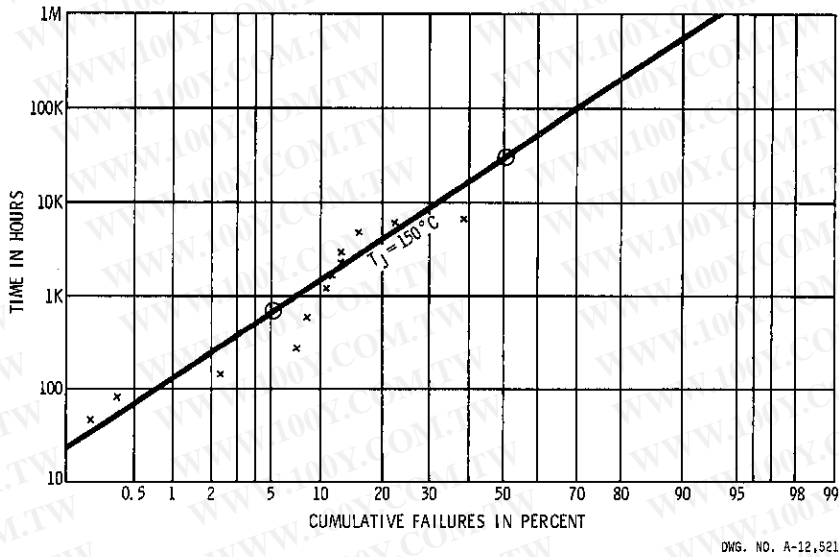
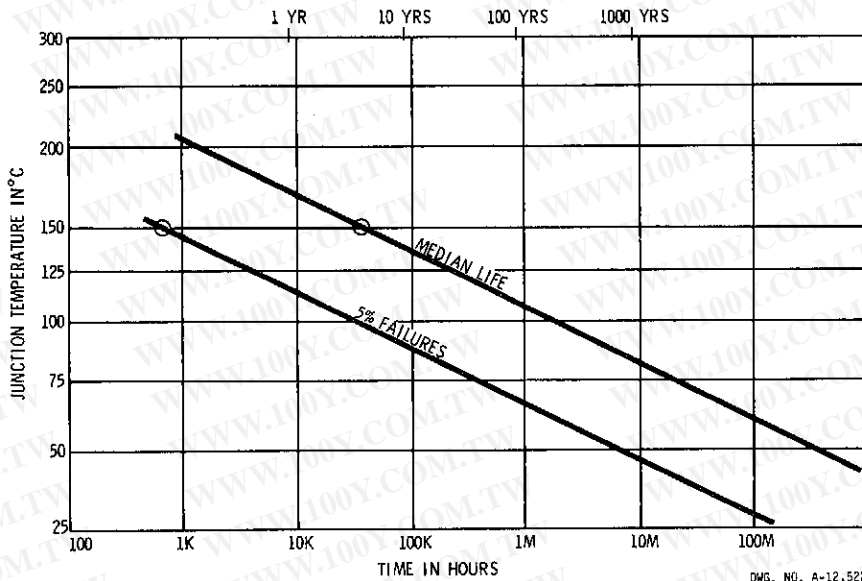

Figure 1
Figure 2
The cumulative percent of failures is plotted on log-normal plotting paper in Figure 1. This paper has a logarithmic time-scale axis and a probability-scale axis. A log-normal distribution plots as a straight line. A line of best fit is drawn through the plotted points and extended to determine the median life-time at the 50% fail-point. The median life at a junction temperature of +150°C is, in this case, 31,000 hours.
The median life-point is drawn on Arrhenius graph paper in Figure 2. The Arrhenius plot gives a graphical solution, rather than a mathematical solution, to the problem of equivalent median lifetime at any junction temperature. A line is drawn through this point (or points when multiple temperatures are used) with a slope of  $\epsilon = 1.0$  eV.
Although not as statistically accurate as the median lifetime, the 5% fail-point can be read from Figure 1 and plotted parallel to the median-life line in Figure 2.
The median life at reduced junction temperatures can now be determined using Figure 2. It must be emphasized that this is junction temperature and *not* ambient temperature. The temperature rise at the junction due to internal power dissipation must be taken into account using the formula:
The median lifetime, or 50% fail-point, as graphically determined in Figure 2, is approximately 22 years at +125°C or 190 years at +100°C junction temperature.
The approximate failure rate (FR) may be determined from  $FR = 1/\text{Median Life}$ , where Median Life is taken from Figure 2 at the intersection of the junction-temperature line and median-life line. The actual instantaneous failure rate can be calculated using a Goldwaite plot.4 However, this approximation is very close. At +100°C the failure rate would be:
Figure 2 shows that a design with a continuous operating junction temperature of +100°C (internal power dissipation plus external ambient temperature) would reach the 5% failure point in 3.8 years.